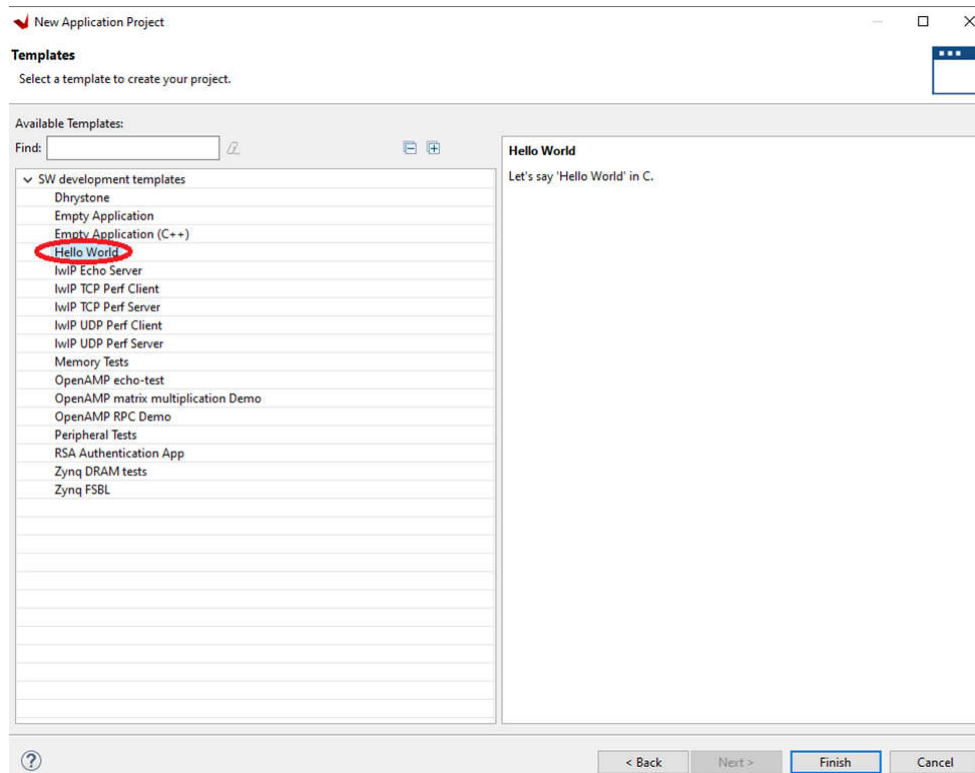

Figure 7-6. Selecting Template
6. Select *Hello World* from the list of templates and click *Finish* (see Figure 7-6).